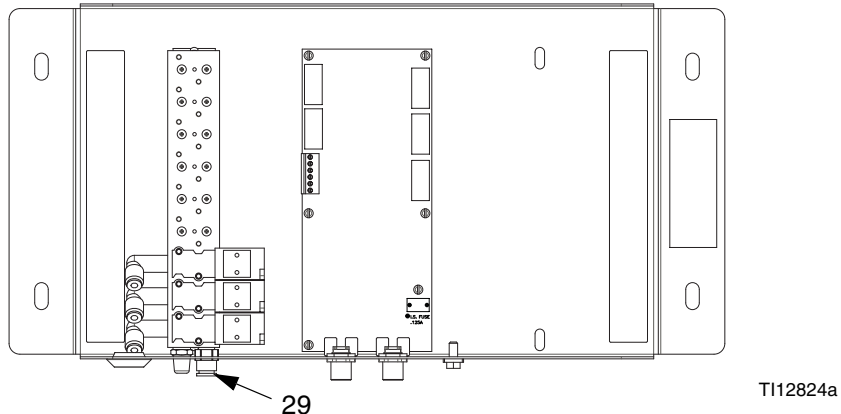

FIG. 3: Solenoid Air Connection
Connect a 1/4 in. (6 mm) OD tube (13) between the system's air manifold (at the bottom rear of the fluid station) and the module air inlet fitting (29). See FIG. 3.